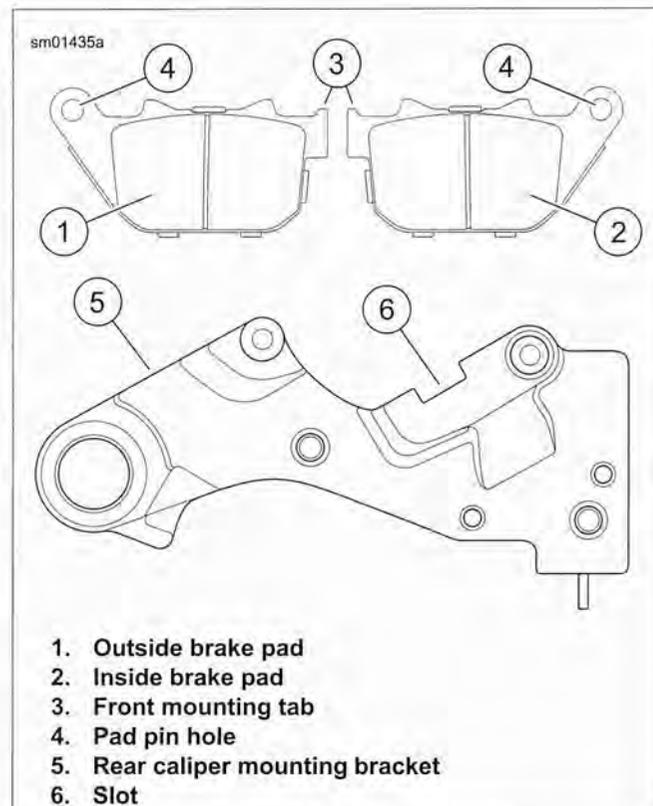

Figure 1-24. Rear Brake Pads
7. See Figure 1-24. Install **new** inside brake pad (2) using same orientation as pad previously removed. Make sure front mounting tab (3) is seated in slot (6) in caliper mounting bracket (5) and pad friction material faces brake disc.
8. While holding **new** inside pad in place, pull pad pin out and remove outside brake pad (1). Note the pad's original orientation for replacement purposes.
- See Figure 1-24. Pad front mounting tabs (3) must be fully seated in mounting bracket slot (6).